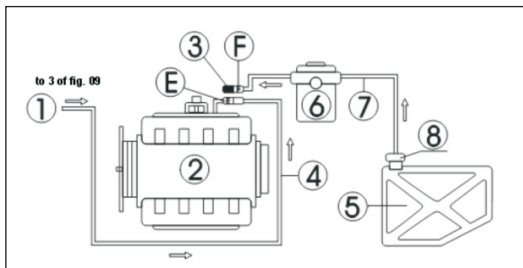

Fig.02
The hose line connection of the engine without return hose is shown as in Fig.02.
- Disconnect the fuel supply hoses (E, F) of engine fuel system (wrap the connector when disconnecting the connector), and then choose a proper connector and connect it to the E end. Reconnect the fuel outlet hose of the unit well and make the fuel return hose hanging. See Fig.02.
- Stop the other end of the disconnected end (F) with a proper stopper, (use when the fuel pump has the fuel return function only) or remove the fuse of fuel pump or disconnect the power cable of fuel pump.